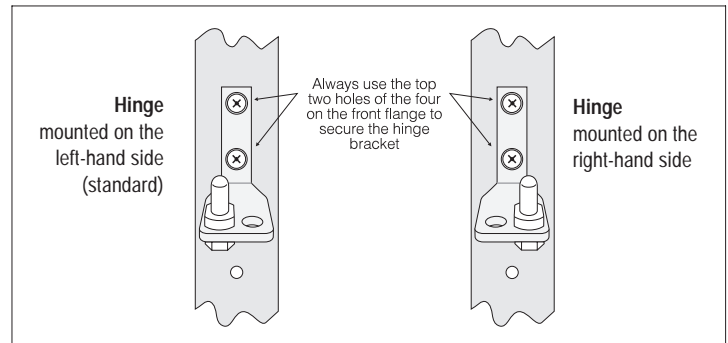

Fig.1-4: Hinge plate and hinge pin positions.
6. Remove the two hinge plates from the cabinet, move the hinge pin to the other hole in each plate, and refit the hinge plates to the opposite side of the cabinet (see Fig.1-4).